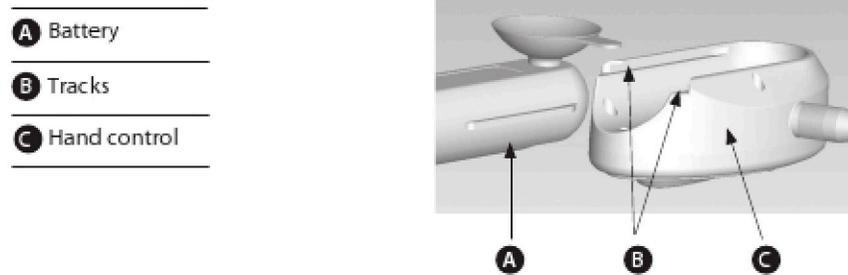

fig 6
1. Slide the fully charged battery into the tracks on the hand control (see fig 6) until it clicks into place.